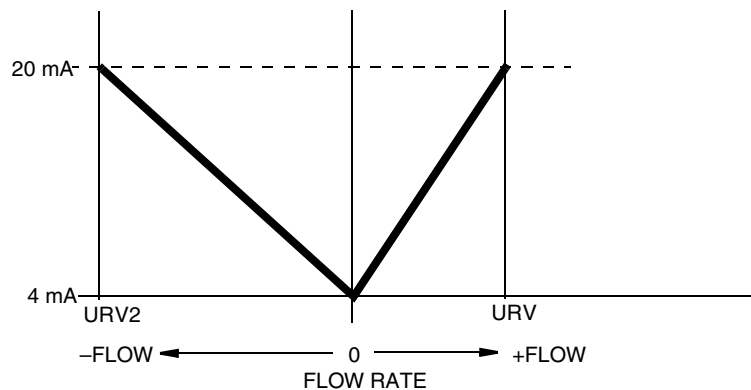

Figure 4. BiDirectional Dual Range Milliampere Output
- ◆ **BiDirectional Dual Range**, which specifies two-way flow with 4 to 20 mA indicating the rate and an optional Relay Output (ref: D6) indicating flow direction. The upper range value for forward flow is parameter *URV*. The upper range value for reverse flow is parameter *URV2* (ref: A4). The relationship between the milliampere output and the flow rate in BiDirectional Dual Range mode is illustrated in Figure 4.